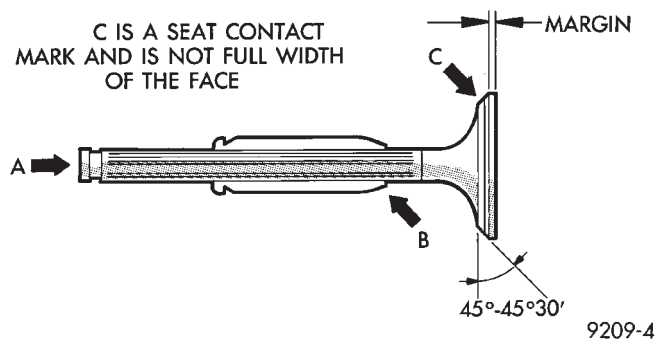

Fig. 106 Valve Inspection
(1) Check valve stem tip for pitting or depression at point A (Fig. 106).
(2) Check for wear and ridge wear at Point B.